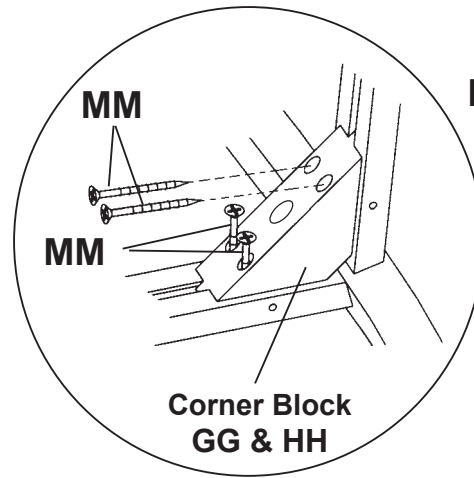
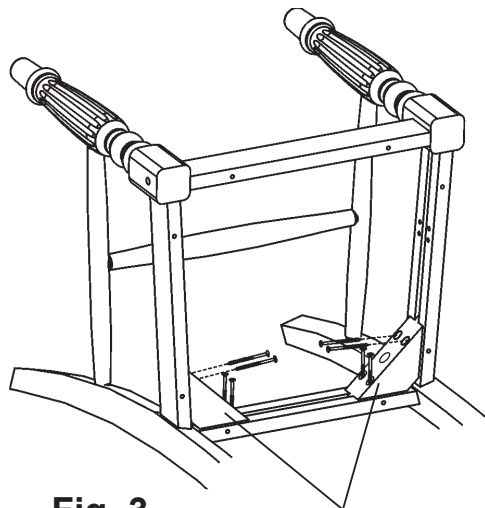
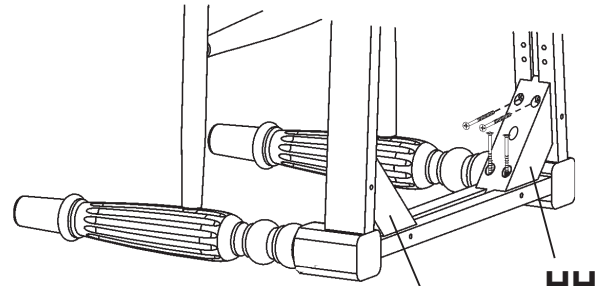

Fig. 3b
Fig. 3
Fig. 3c
3. Before you attach the Corner Blocks (GG and HH), make sure the side aprons are seated snugly against the front and back legs. Spread a thin layer of glue in the upper and lower notches of a Back Corner Block (GG) and insert it into the grooves in the back and side aprons. Quickly wipe away any excess glue. See Figures 3 and 3a. Using the predrilled holes as guides, fasten the block in place with four #8x1" Pan Head Screws (MM). See Figure 3b. Repeat for the second back corner block. Repeat this step to attach the Front Corner Blocks (HH). See Figure 3c.